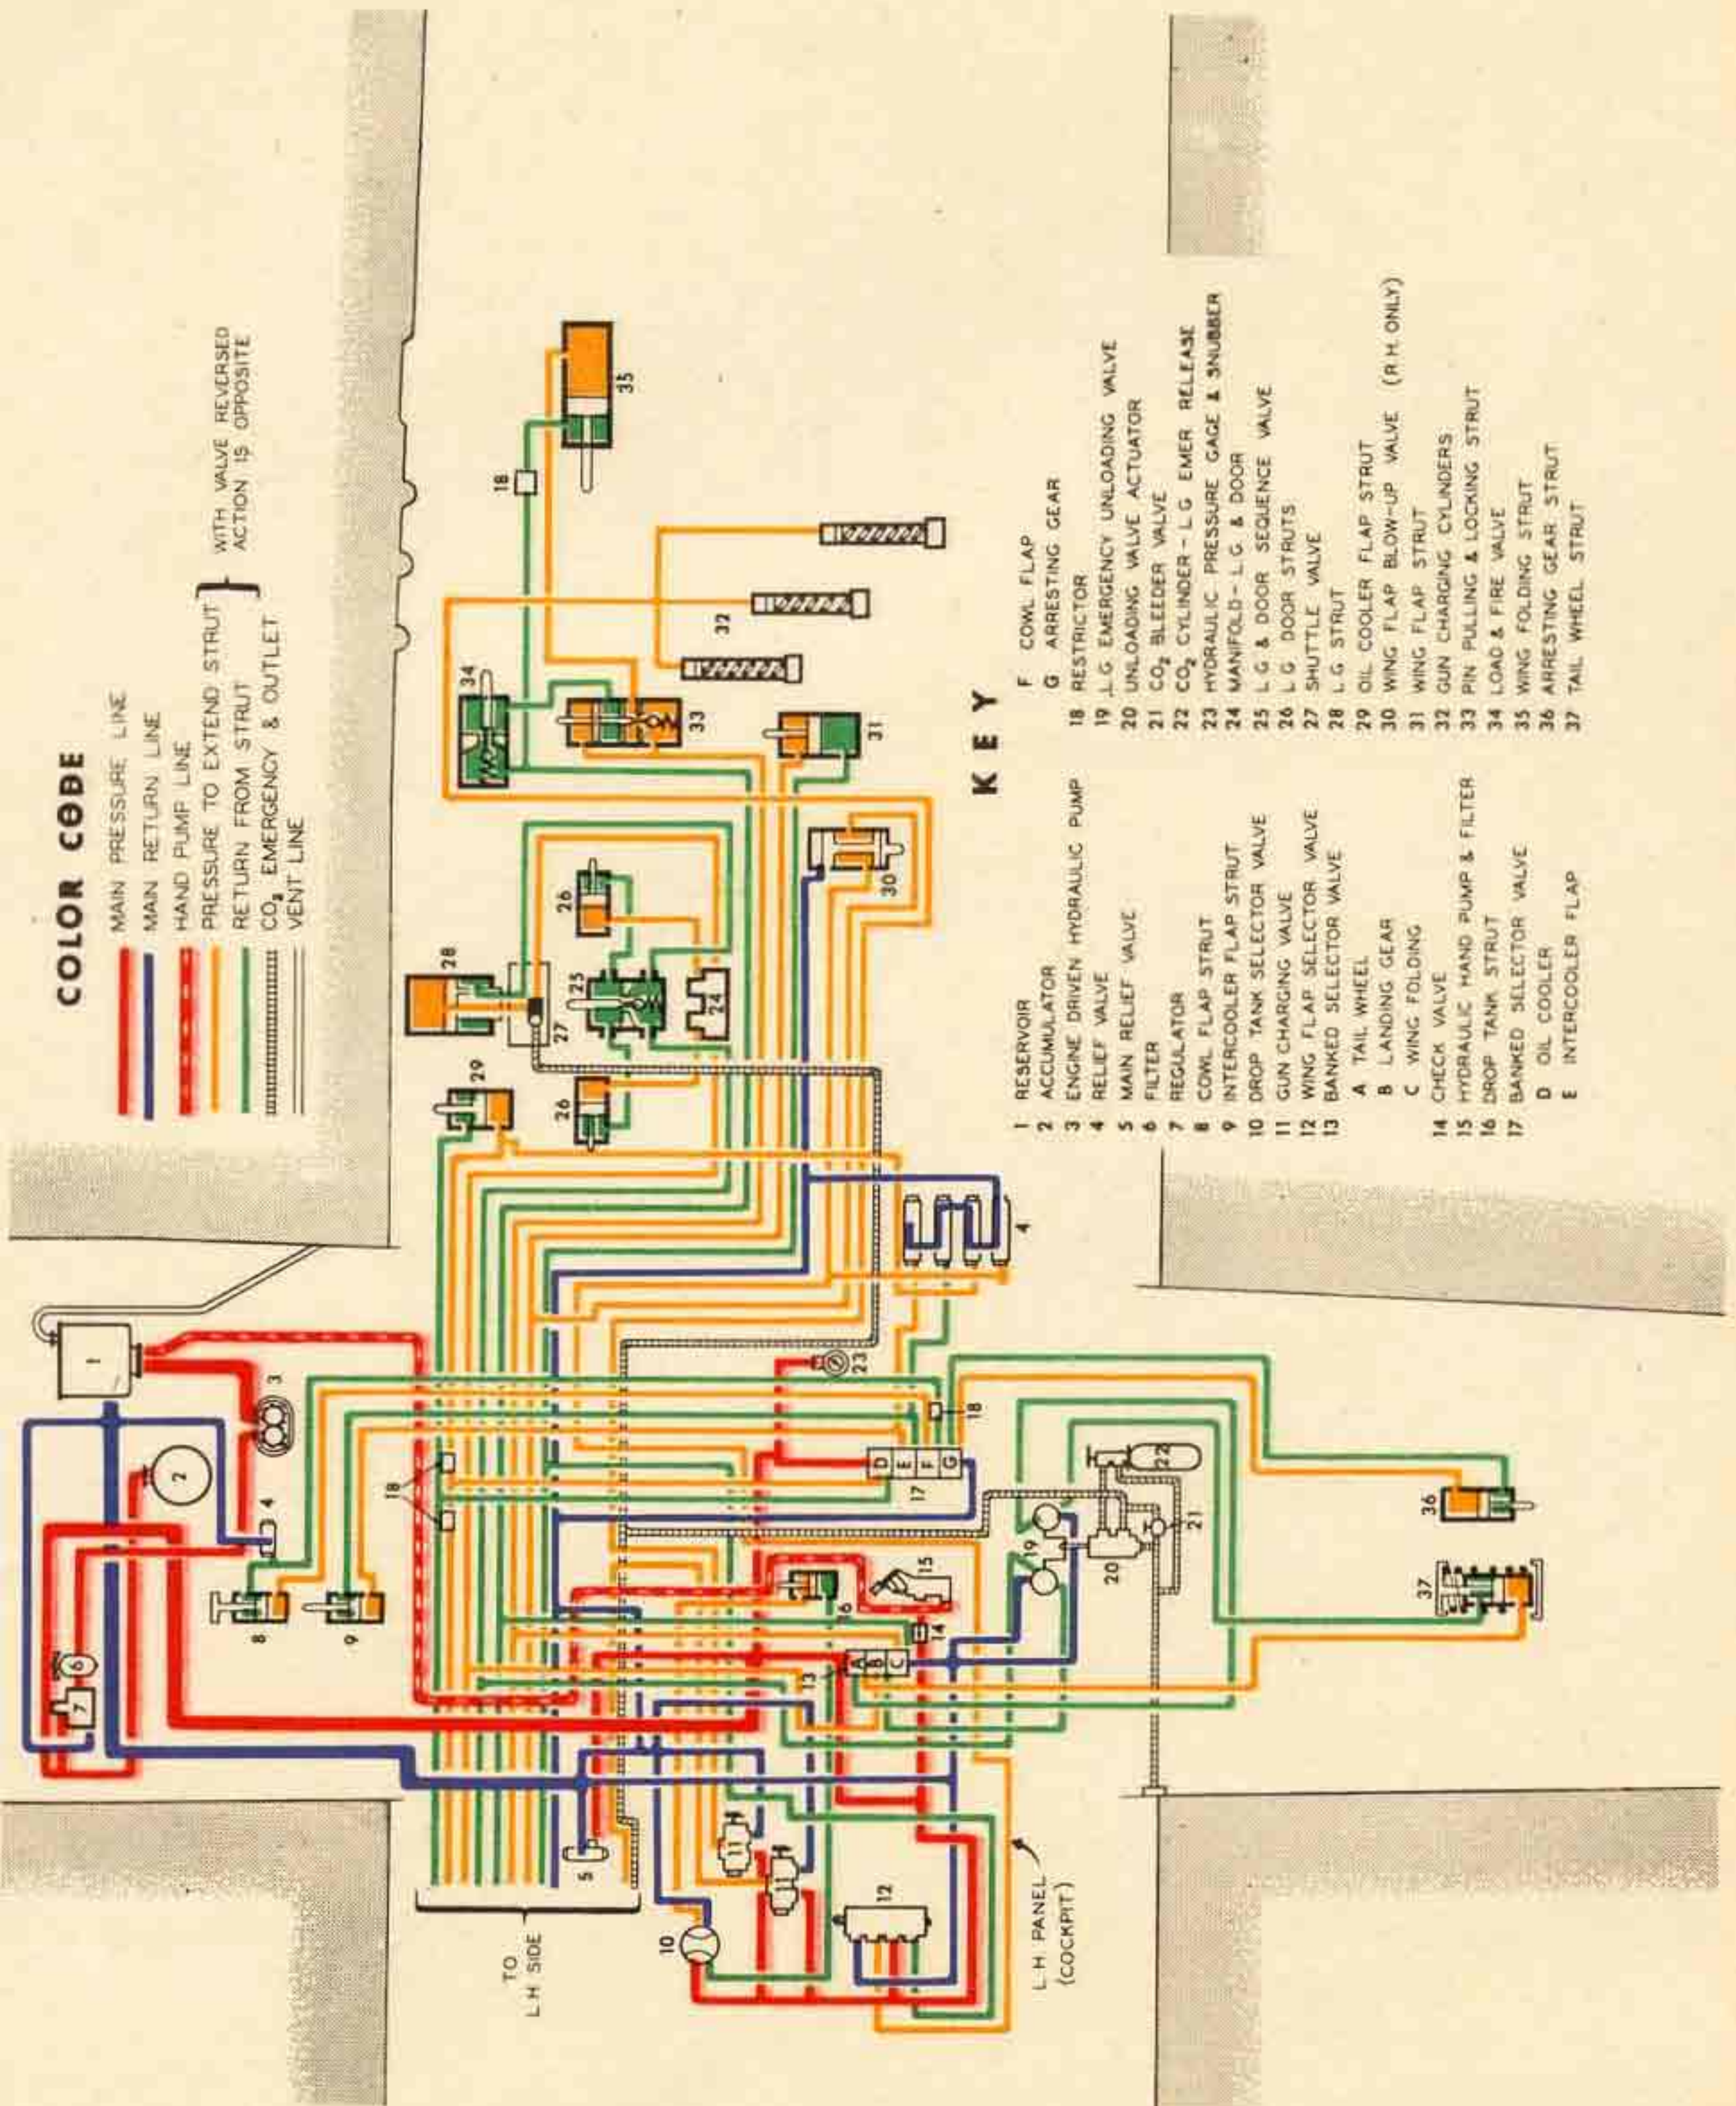

Figure 17—Hydraulic System Overall Diagram
e. HYDRAULIC SYSTEM CONTROLS (See Figures 17 to 23).
(1) HYDRAULIC OIL: Specification: AN-VV-O-366 (red fluid).
(2) GENERAL. — An engine-driven hydraulic pump, pressure regulator and accumulator combine to maintain a constant pressure of 900 to 1150 pounds per square inch, indicated by the gage located on the right hand sub-instrument panel in the cockpit. After a hydraulic control is moved, the pressure will drop and vary while the items are moving, and then become steady after the movement is completed. A hand pump is provided for use when the engine is not running or in event of failure of the engine-driven pump.
(3) LANDING GEAR CONTROL.